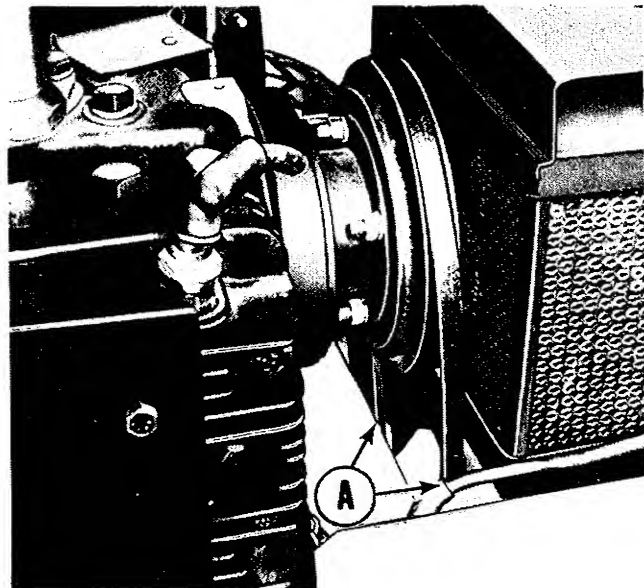

Figure 7. Tractor hood raised to show mower drive belt installed on power take off pulley.
8. See figures 7 and 8. Raise the tractor hood and feed the mower drive belt over the engine front power-take-off pulley and down around the idler pulleys located in the hitch assembly. Be sure the belt "V" is in the pulley grooves and twisted correctly as shown.
12. See figure 7. Check the belt at points (A) to insure it is at least $1/4''$ away from the tractor frame and battery. If it is not, adjust the idler pulley according to the instructions on page 6 of this manual under Belt Tension Adjustment.
5. See figure 7. Check the distance at (A). There should be at least $1/4''$ clearance between the belt and the tractor battery and frame. If there is not, proceed as follows:
- c. Move idler pulley (B) forward or rearward as required to center the belt between the tractor frame and battery (figure 7, item A). Moving idler pulley (B) forward will of course move the left side of the belt closer to the battery and farther from the frame, but will move the right side of the belt away from the battery and closer to the frame.